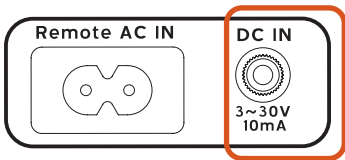

Figure 4a
- A. Connect the Remote DC Control Cable (included) into the outlet labeled "DC IN" on the rear panel of the Power Console. (Fig. 4a)